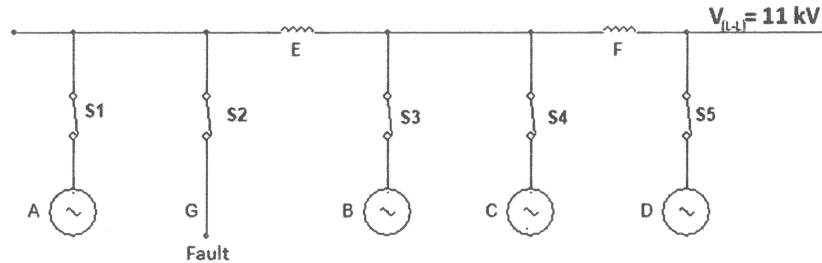

Figure Q4a: Single line diagram with fault point G.
- (a) The following Figure Q4a shows a single line diagram indicating a network connecting 4 generators and 2 reactors. The machine rating and percentage reactance are listed below the figure. A symmetrical fault developed along the feeder labelled G.